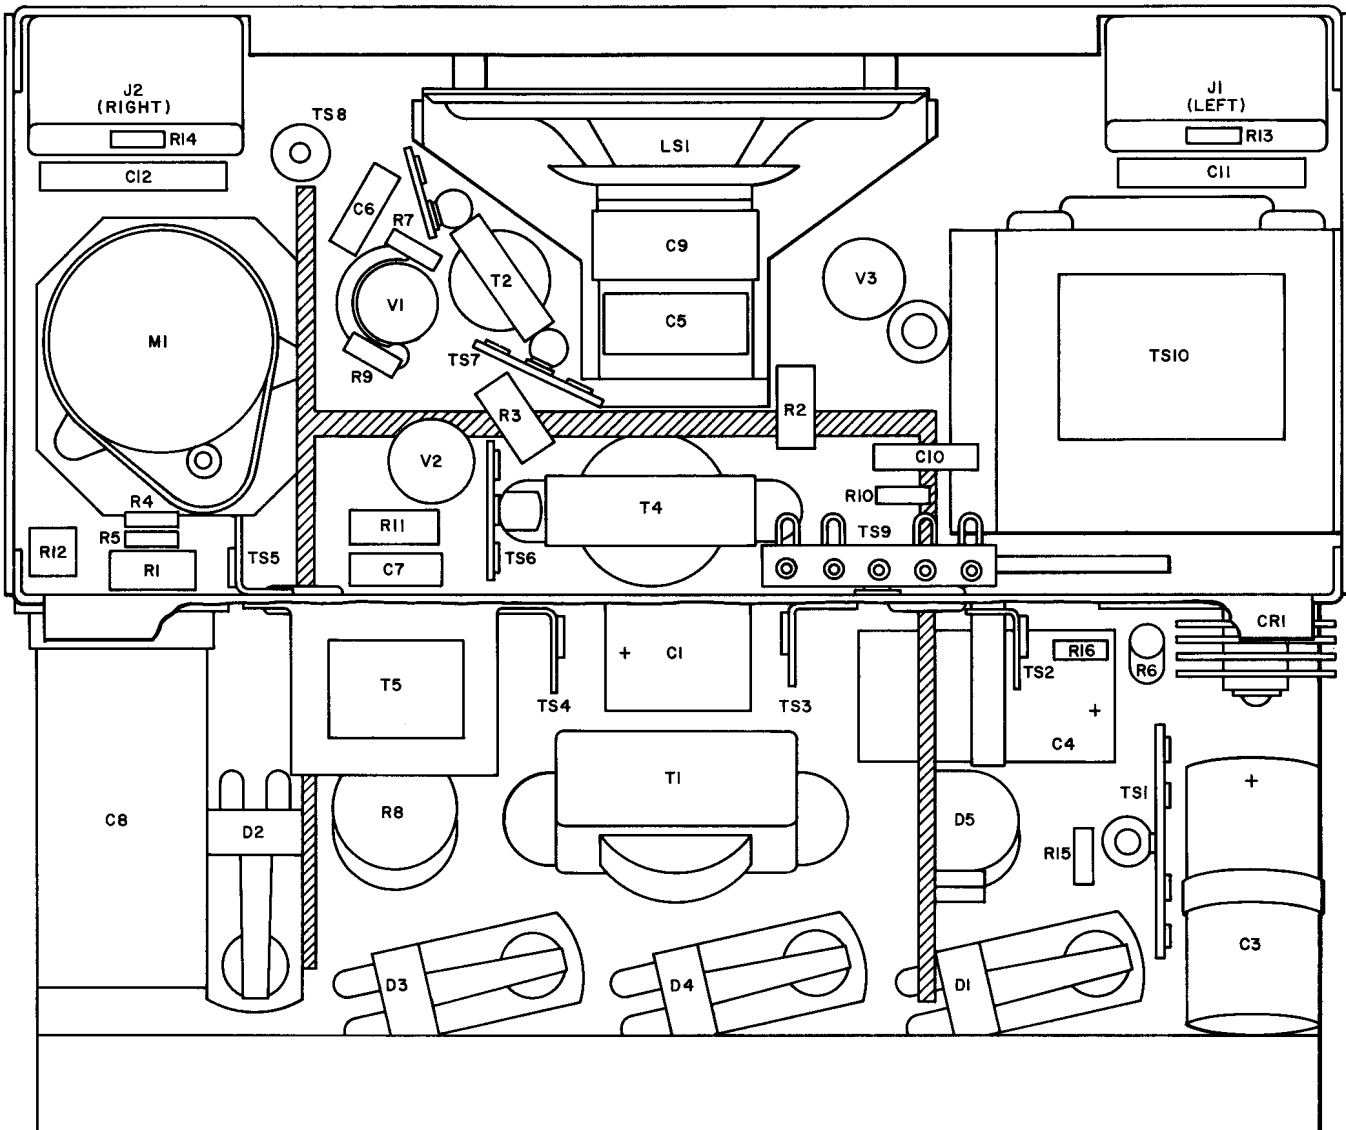
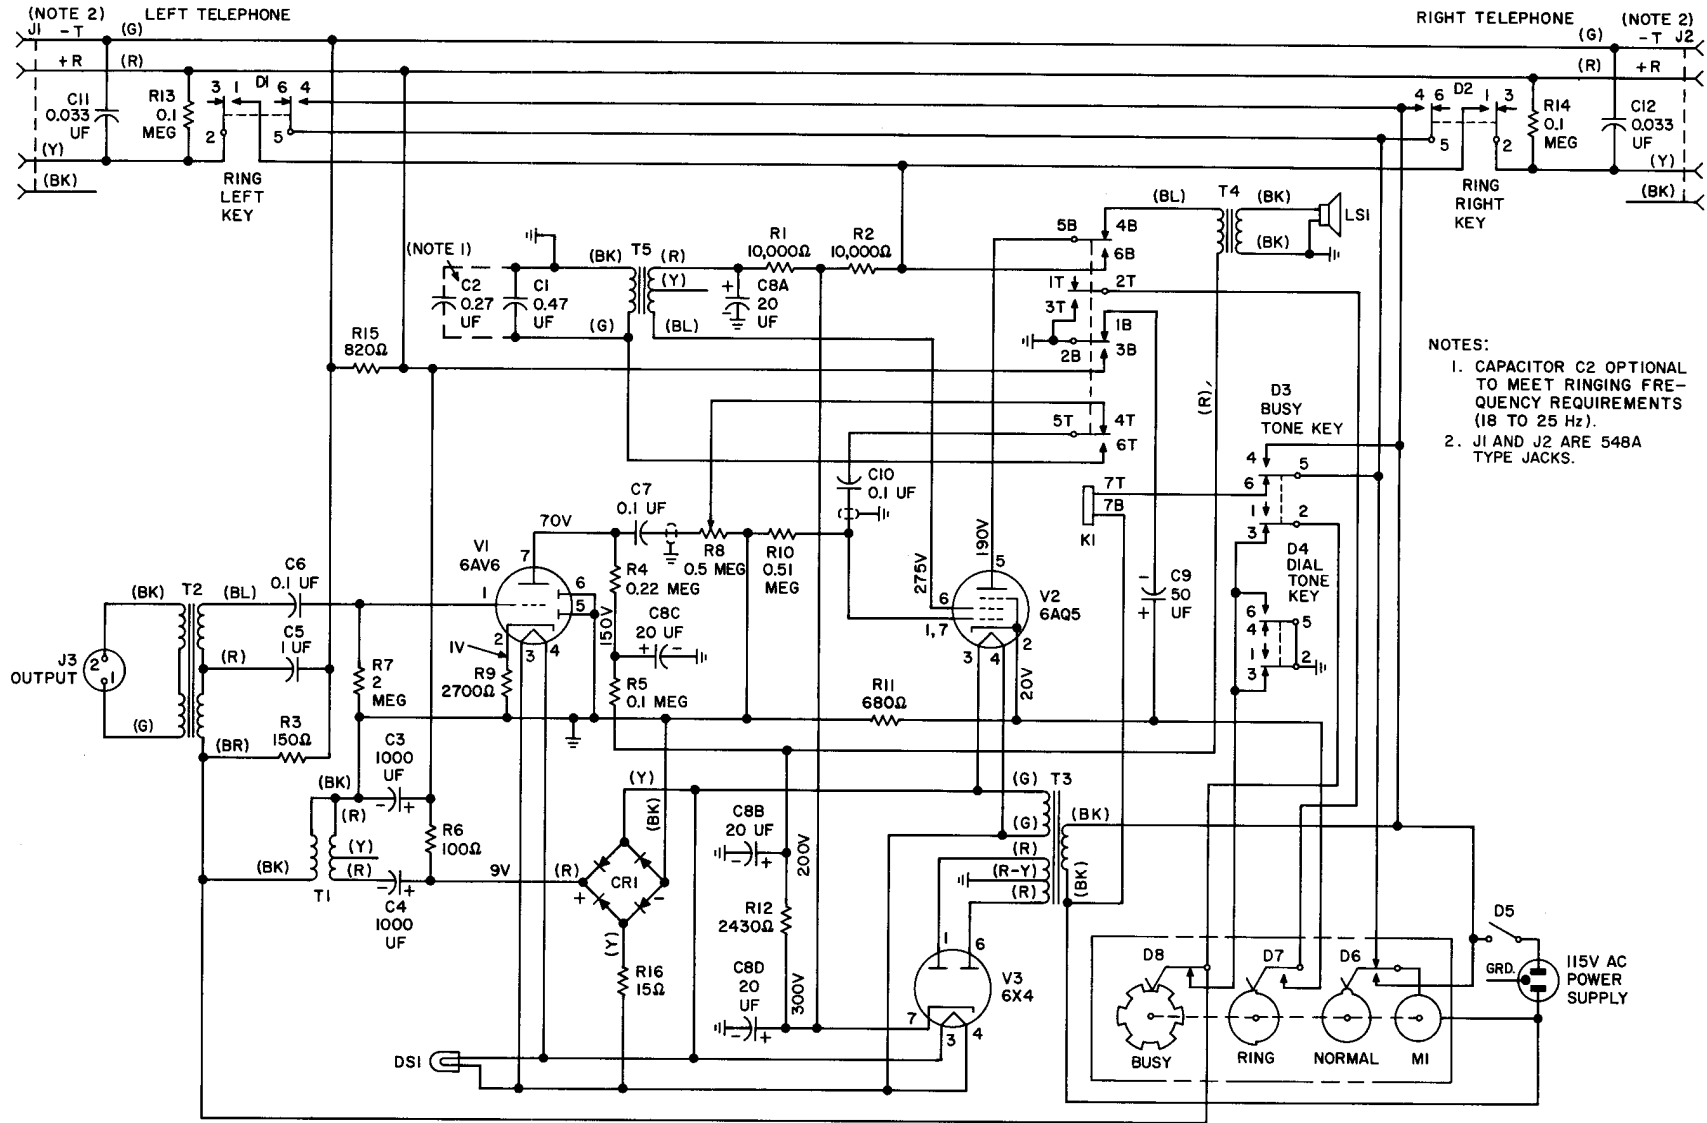

Fig. 7—Control Unit Parts Location—Underside of Chassis
Fig. 9—KS-16605, List 1 Control Unit—Schematic Diagram
4.01 The location of control unit components is shown in Fig. 7 and 8; Fig. 9 is the schematic diagram, and Table A provides part information.